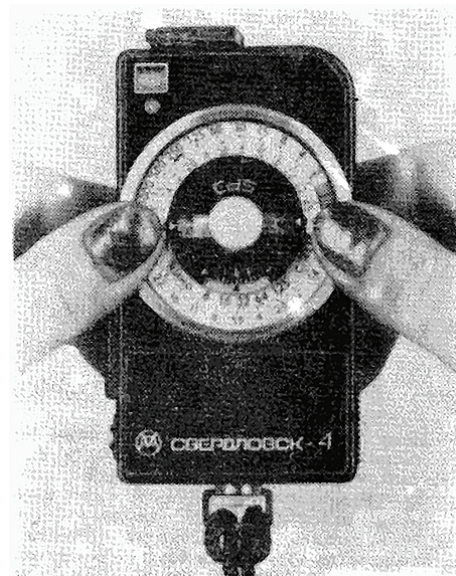

Fig. 3. Setting the film sensitivity
2. Rotate the aperture scale **10**, using the projections **5**, to set the film sensitivity on scale **11** or scale **6**, as shown in Fig. 3.